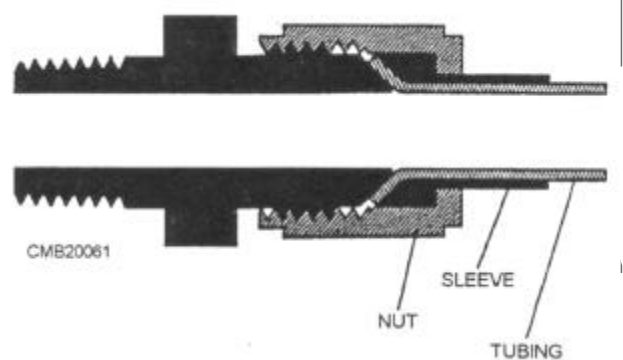

Figure 3-39.—Flared-tube connector.
**FLARED-TUBE CONNECTORS.**—Flared-tube connectors are commonly used in circulatory systems consisting of lines made of tubing. These connectors provide safe, strong, dependable connections without the necessity of threading, welding, or soldering the tubing. The connector consists of a fitting, a sleeve, and a nut (fig. 3-39).